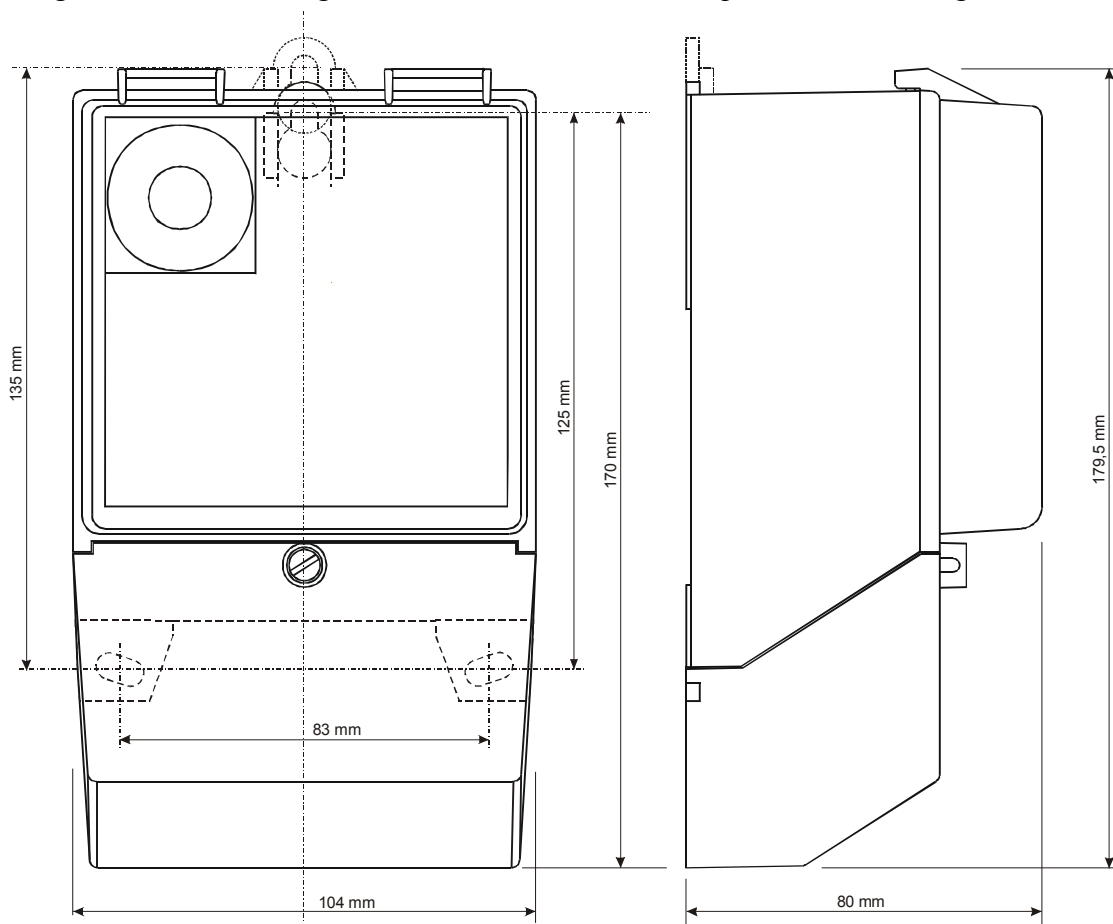

Figure 2. Mounting dimensions
- Figure 2. Mounting dimensions 4
RC4 is assumed to be mounted on a flat surface by three screws. Mounting holes are arranged according to DIN43861-2. Figure 2 shows all dimensions required for mounting.